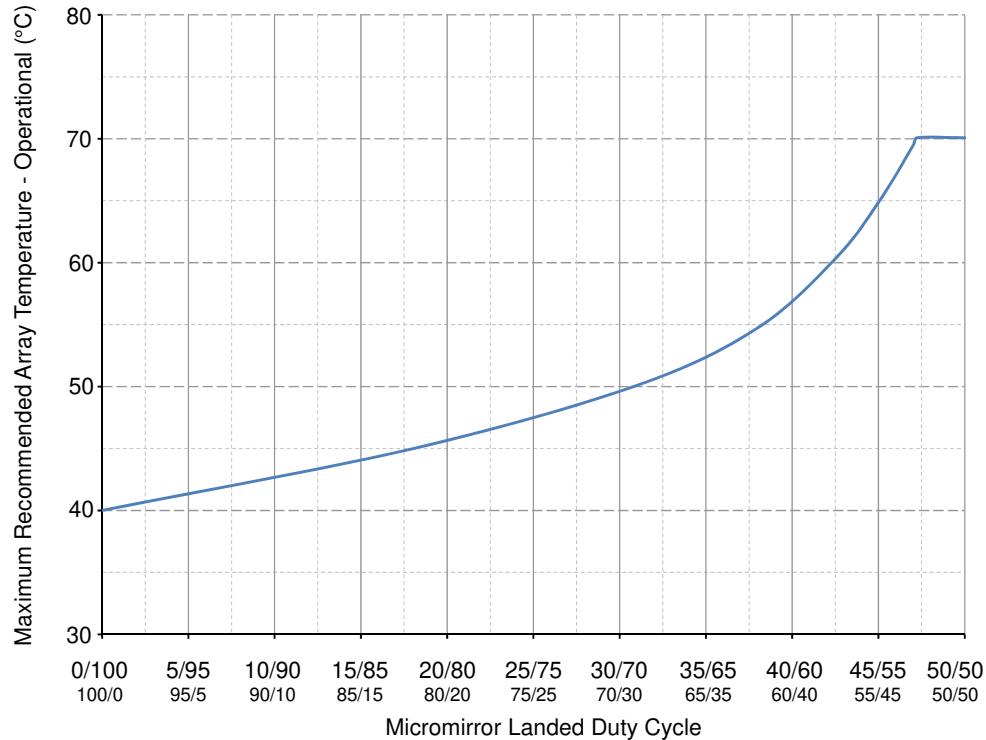

Figure 5-1. Maximum Recommended Array Temperature—Derating Curve
- (11) Per Figure 5-1, the maximum operational array temperature should be derated based on the micromirror landed duty cycle that the DMD experiences in the end application. Refer to Section 6.8 for a definition of micromirror landed duty cycle.
- (12) Long-term is defined as the usable life of the device.
- (13) Short-term is the total cumulative time over the useful life of the device.